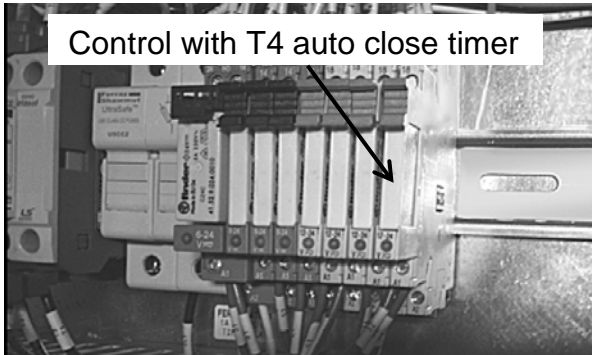

Figure 41
1. The timer function allows the door to close automatically after a predetermined time. (See Figure 41 & 42)